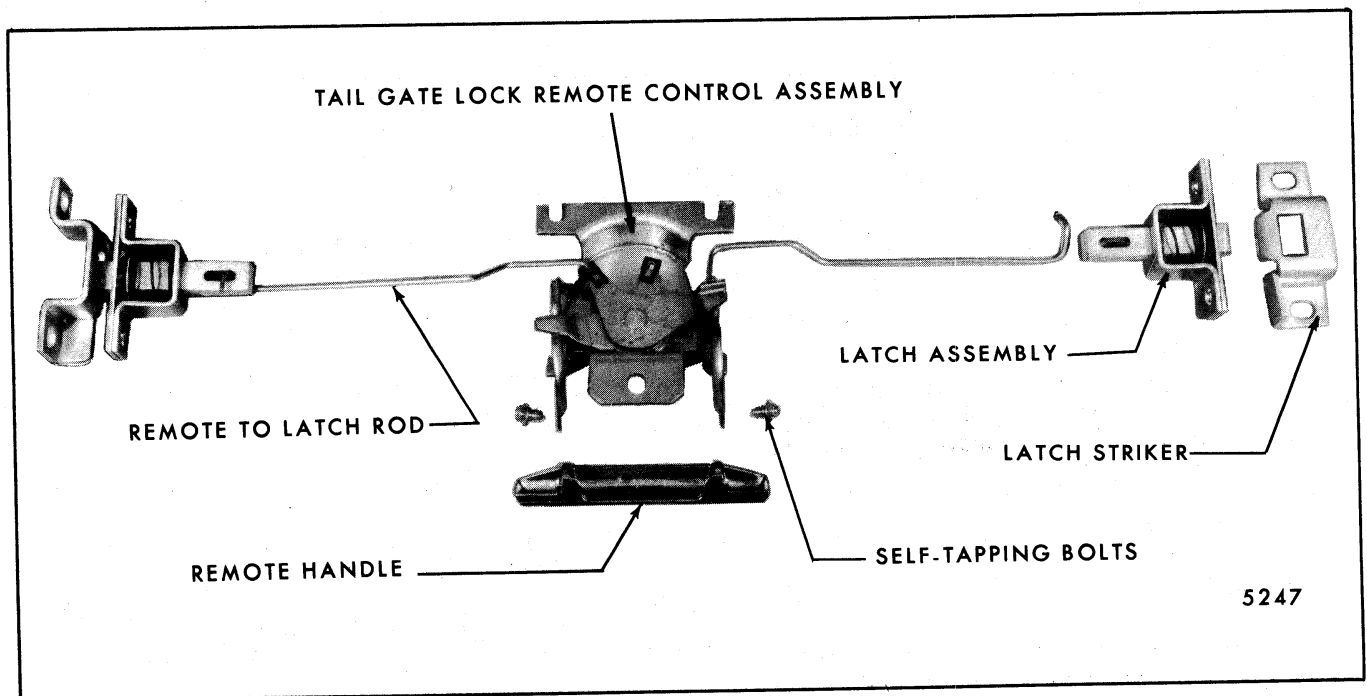

Fig. 7-108-Tailgate Hardware Components
4. Remove remote control attaching bolts and withdraw assembly from tailgate. Refer to Figure 7-108 showing hardware components removed from tailgate.